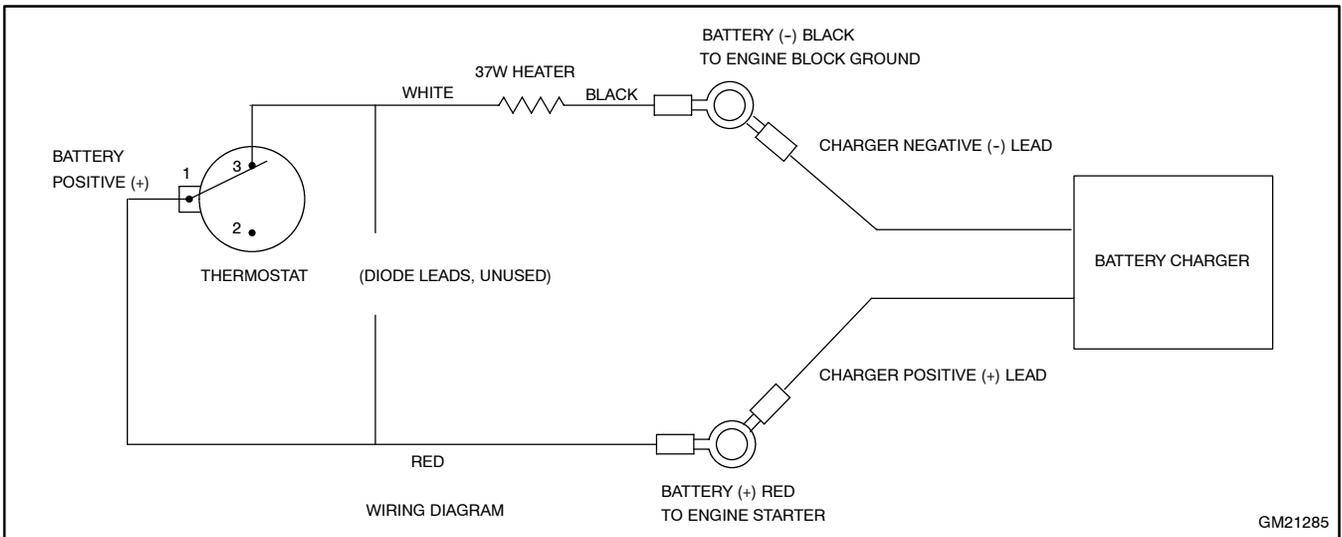
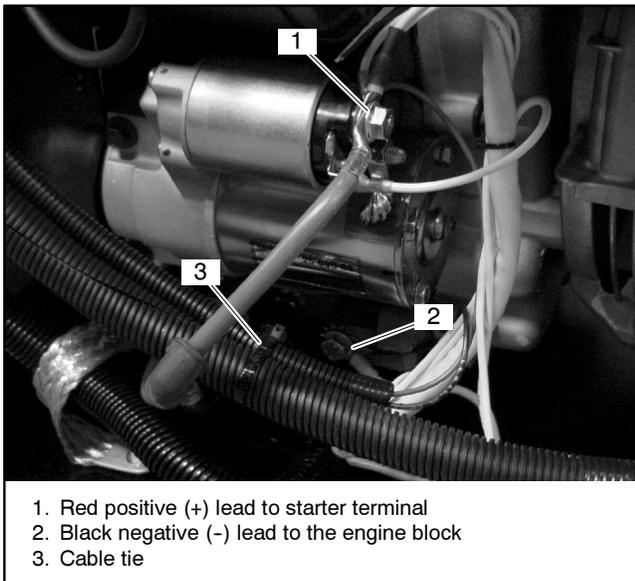

Figure 21 Connection Configuration without the Diode (Use this configuration for chargers rated 4 amps or more that produce less than 14 VDC at 3 amps.)
Figure 22 Connecting the Heater Power Leads
2. Connect the thermostat leads. See Figure 21.
- b. Remove the red wire from terminal 2 on the thermostat and connect it to terminal 1. See Figure 21.
- a. Connect the positive (+) lead from the battery charger to the engine starter positive battery connection. See Figure 21 and Figure 22.
- b. Connect the negative (-) lead from the battery charger to the engine block ground screw. See Figure 21 and Figure 22.
2. Connect the red (positive) lead to the engine starter positive battery connection. See Figure 22.
3. Connect the black (negative) lead to the engine block ground screw. See Figure 22.
4. Secure the wiring harness with cable ties as shown in Figure 22.